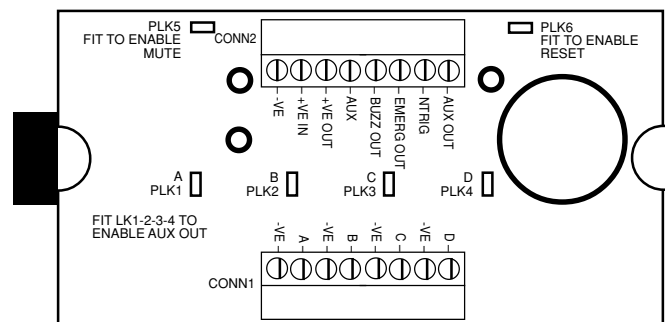

Fig.1 - PCB layout.
**Please note:** the NC944's MUTE and RESET buttons can be disabled by removing links PLK5 and PLK6 respectively on the PCB (see fig.1 - PCB layout).